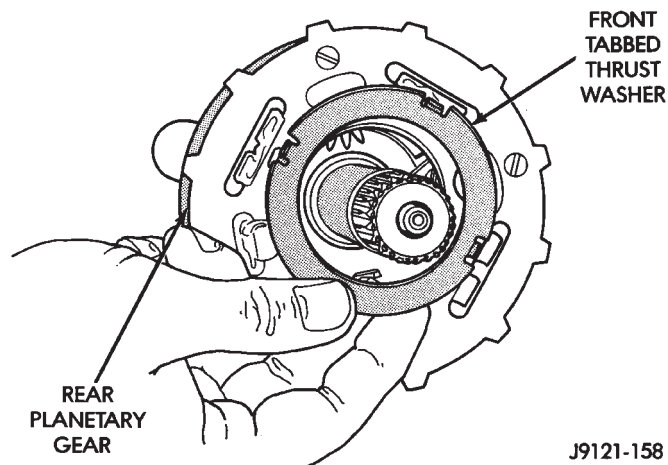

Fig. 230 Installing Rear Planetary Front Thrust Washer
(6) Install front thrust washer on rear planetary gear (Fig. 230). Use enough petroleum jelly to hold washer on gear. Be sure all four washer tabs are seated in slots.